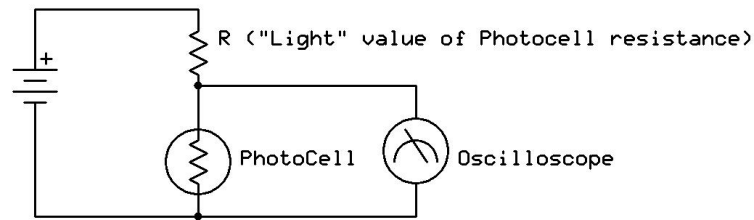

Figure 6: Phototransistor circuit diagram
- (1) The phototransistor has the same theory and geometry as what is used in lab 1. The photoCell (in this case the photoresistor) has a voltage which is high in the dark and lower in the light. As a reminder, the circuit diagram is shown in Figure 6.